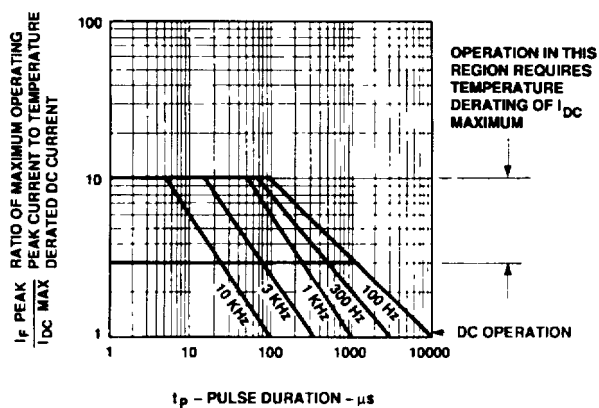

Figure 7. Maximum Tolerable Peak Current vs. Pulse Duration - HER Series.
- 5 See Figure 7 to establish pulsed conditions.